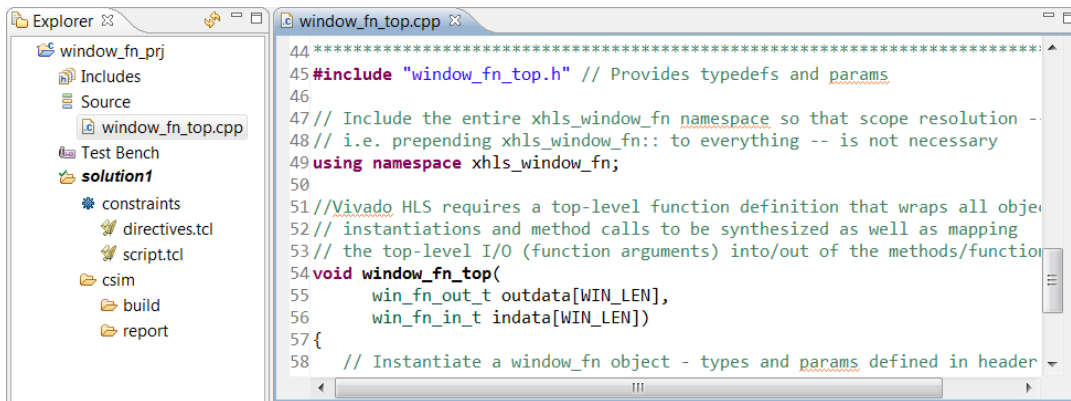

Figure 100: C Code for Arbitrary Precision Lab 2
- Open the Source folder in the explorer pane and double-click **window_fn_top.cpp** to open the code as shown in **Figure 100**.